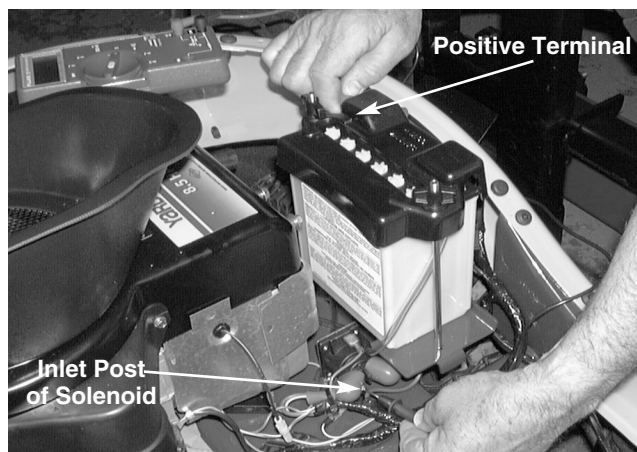

FIGURE 3.
- 4). Place one probe on the positive battery terminal. Place the second probe on the inlet post of the solenoid. -There will be **CONTINUITY**. See figure 3.